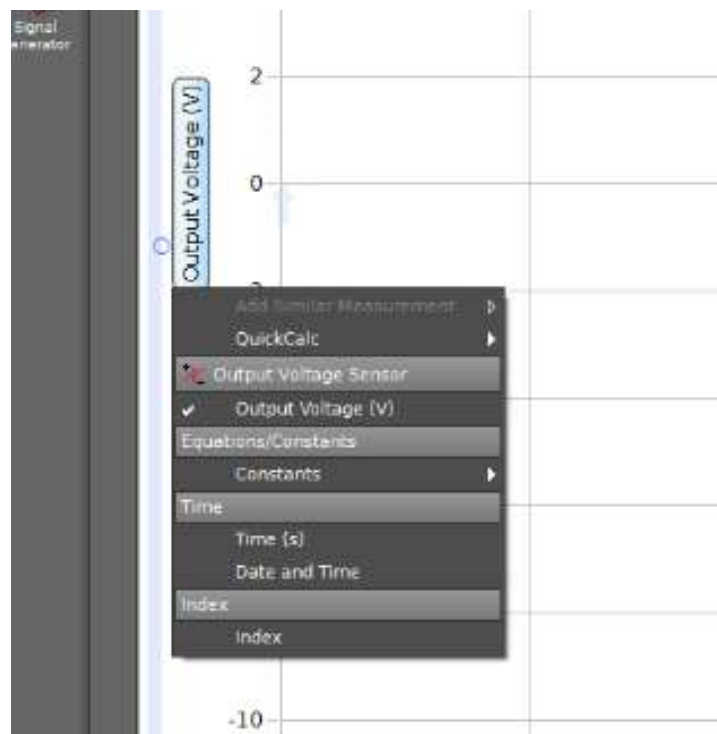

Figure 3: Setting the y-axis to “Output Voltage Sensor”
**Activity 2:** output a 5V direct current signal using the Signal Generator on the left bar of the screen (set 'wave form' to 'DC', and 'amplitude' to 5V). Plot the output signal by dragging the “Scope” logo on the right bar of the Capstone Window (see Figure 3) and setting up the y-axis to be “Output Voltage” (see Figure 4). Use the multimeter to verify that this is indeed the output.